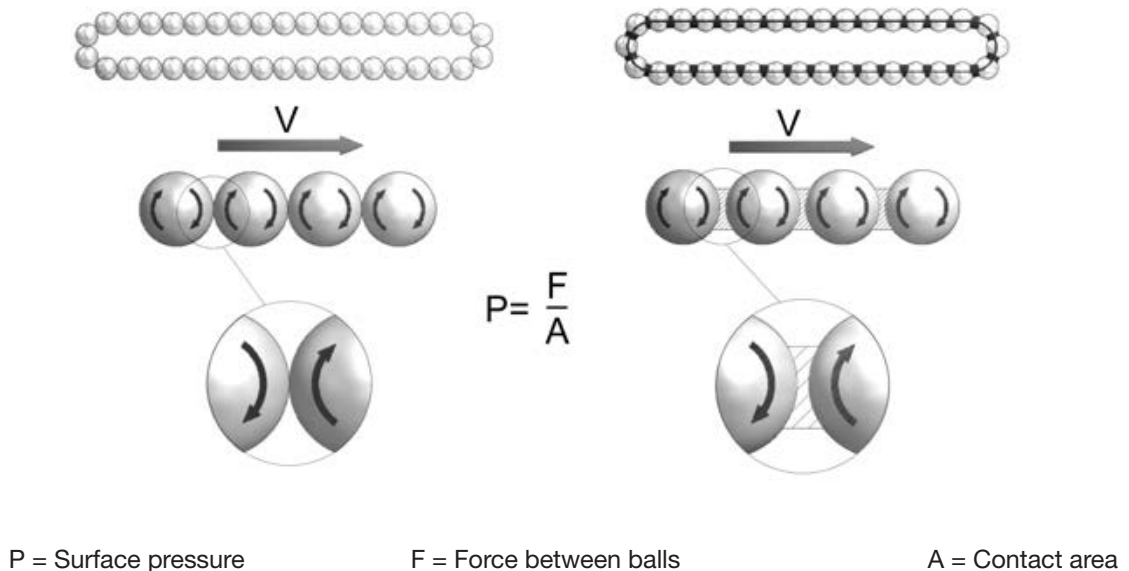

Figure 1.6 Schematic view of the contact surfaces
The rotating balls in conventional profile rail guides have point contact between each other (Figure 1.6). The rotation speed at the contact point is double that of the speed of the balls. The contact area (A) is so small that the surface pressure (P) tends towards infinity. This leads to heating and wear of the balls and the profile rail guide system. The chain in profile rail guides with ball chains has the function of a cage. Contact between the balls is prevented (Figure 1.6). The ball and the chain also have a relatively large contact area (A) that significantly reduces the surface pressure (P). The rotation speeds at the contact surfaces of ball and chain correspond. The ball chain is further used to transport the lubricant and to create a lubrication film on the balls. The design of the runner block allows effective supply with lubricant from the lubricant connection to the circulation areas of the ball chains (Figure 1.7).